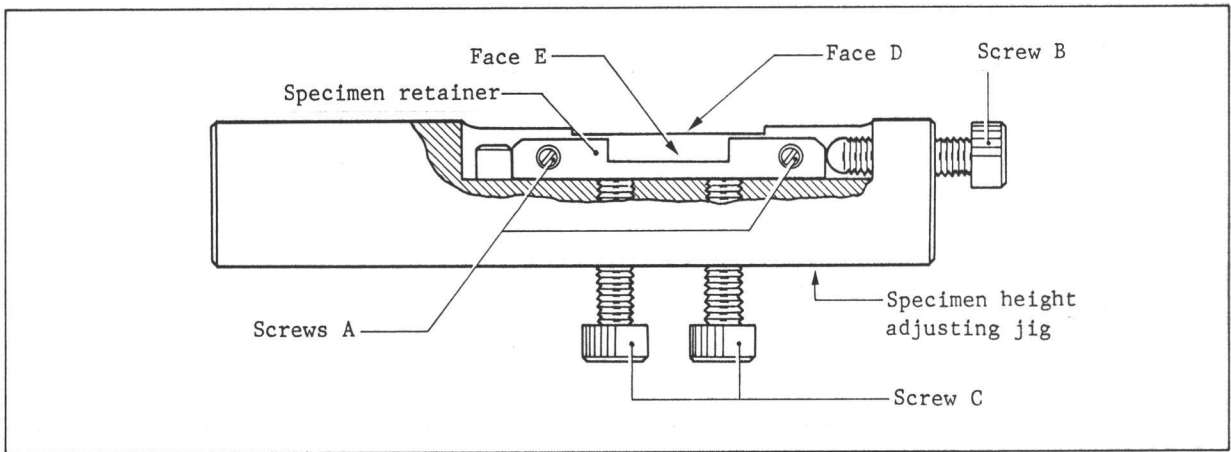

Fig. 10
6. Position the specimen surface flush with face D (upper face of the specimen height adjusting jig) with screw C (Fig. 10).
7. After securing the plate to the frame with screws A (Fig. 10), loosen screw B and take the EM-BR out of the jig.